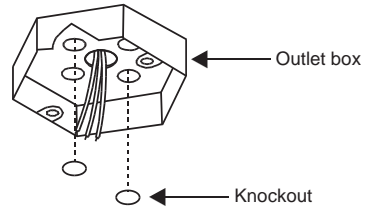

Fig. 6
1. Remove two knock-outs from the outlet box to expose the joist. (Fig. 6)